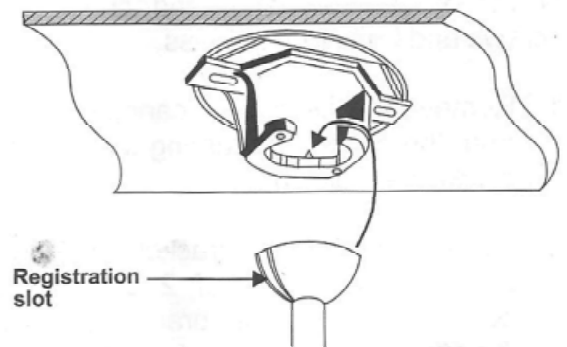

Figure 10
10. Now lift the motor assembly (fan with blades) into position and place the hanger ball into the hanger bracket. Rotate the down rod until the "Check Tab" has dropped into the "Registration Slot" and the down rod and ball assembly seat firmly. The down rod and ball assembly should not rotate if this is done correctly. (Fig.10)